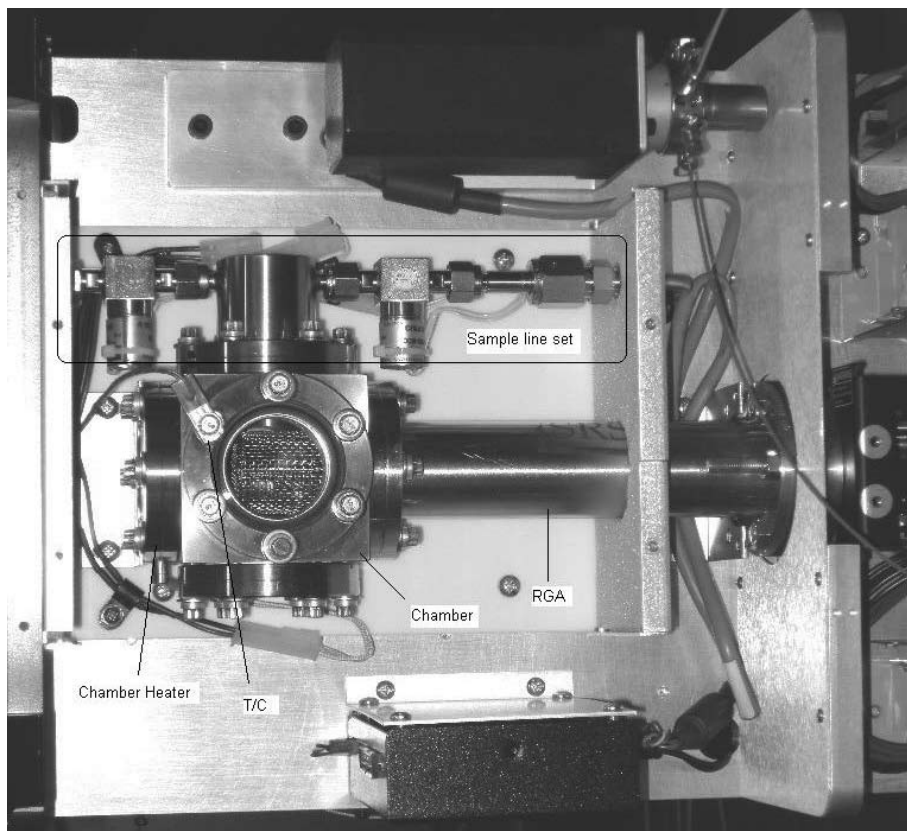

Figure 1-5a. Top Front Components
In Fig. 1-5a, the main chamber is shown. It consists of a sample line set, a cubic chamber, an RGA analyzer, a chamber heater (CHA), and a thermocouple. The sample line set is composed of 1/8"-Ultra-Torr connector, sample valve (SV), 40 μm pinhole (50 μm pinhole for Option #3) port, bypass valve (BV), and bypass line. The sample line set, the RGA analyzer, and the chamber heater are attached to a 2.75" cubic chamber as shown in Fig. 1-5a.